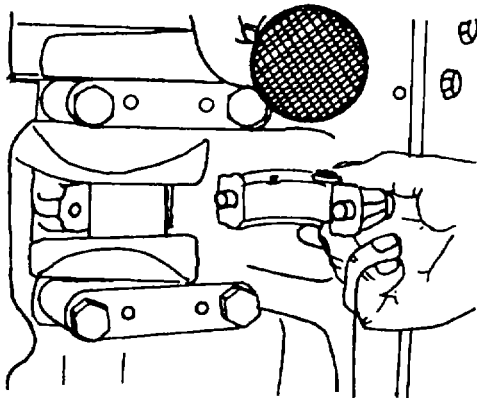

Figure 5-42. Positioning Big End Bearing Bearing on Crankpin
8. Oil the crankpin. Place the connecting rod bearing on the crankpin (figure 5-42).